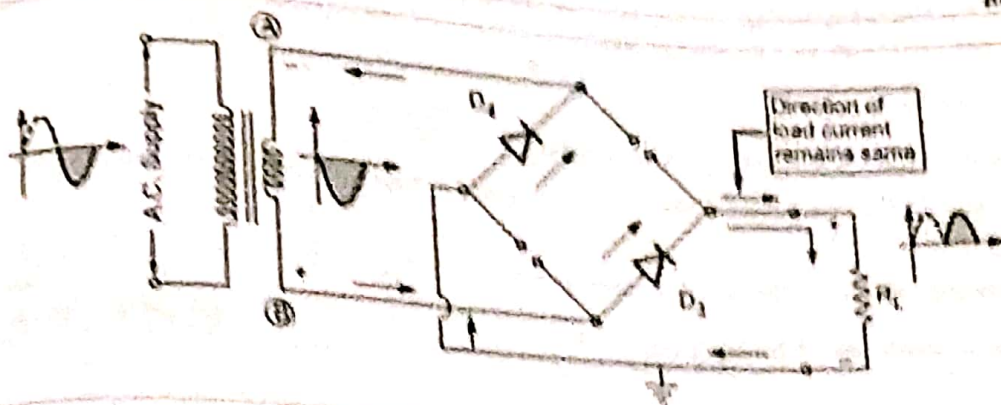

Fig. Q.19.3 Current flow during negative half cycle
- In the next half cycle, when the polarity of ac voltage reverses hence point B becomes positive diodes D_3 and D_4 are forward biased, while D_1 and D_2 reverse biased. Now the diodes D_3 and D_4 conduct in series with the load and the current flows as shown in Fig. Q.19.3.